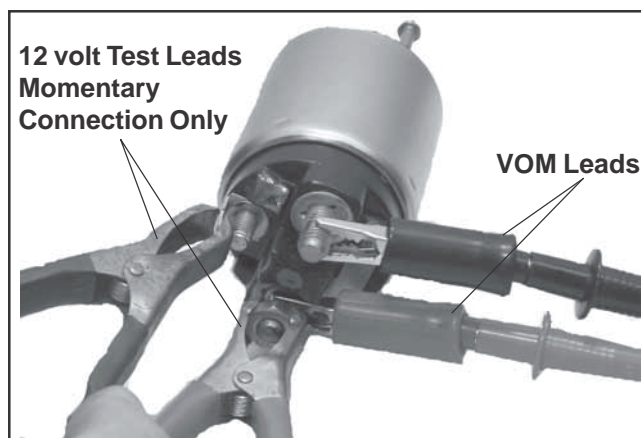

Figure 7-47. Testing Pull-In Coil/Solenoid Contact Continuity.
Use an ohmmeter set to the audible or Rx2K scale, and connect the two ohmmeter leads to the two large post terminals. Perform the preceding test (1) and check for continuity. See Figure 7-47. The ohmmeter should indicate continuity, if no continuity is indicated the solenoid should be replaced. Repeat test several times to confirm condition.